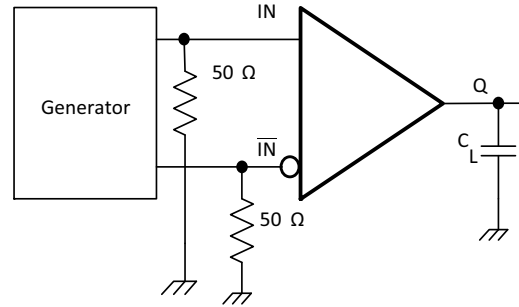

Figure 1. Receiver Propagation Delay & Transition Time Test Circuit
6. Test Conditions for the above – $V_{ID} = 200 \text{ mV}$, $C_L = 15 \text{ pF}$ (includes Load & Jig Capacitance), Figures 1 and 2